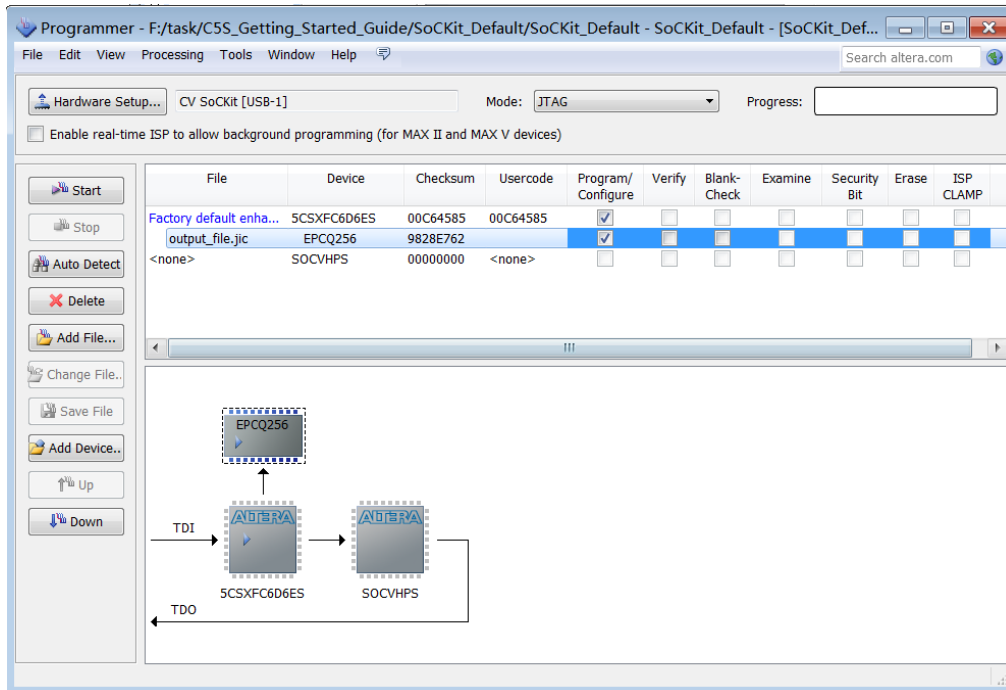

Figure 7-8. Quartus II programmer window with one JIC file
2. Program the serial configuration device by checking the corresponding **Program/Configure** box, a factory default SFL image will be loaded (See Figure 7-8).